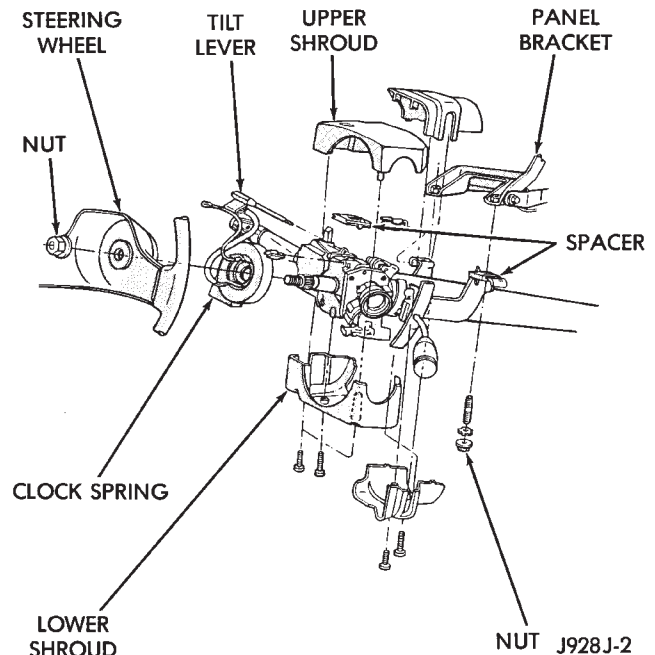

Fig. 6 Steering Column Shrouds Remove/Install - Typical
(8) Remove the steering column opening cover/knee blocker from the instrument panel.
(9) Remove both the upper and lower shrouds from the steering column (Fig. 6).